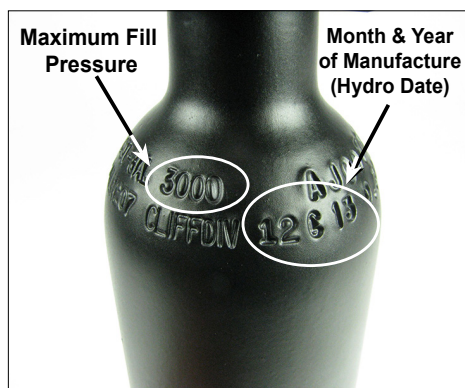

Figure 2
2. The SEA-3000LW is configured with a 3000 PSI/ 206 BAR aluminum cylinder. Examine the cylinder markings to verify it is rated for a fill pressure of 3000 PSI/ 206 BAR and has a current visual inspection (Fig. 2).
NOTE: The SEA-3000LW 1.5 cf (42.5 L) and 2.0 cf (56.6 L) aluminum cylinders do not require hydrostatic re-testing. (Fig. 2).